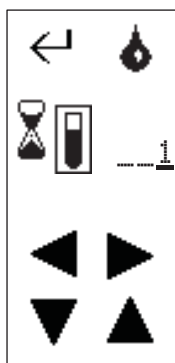

Figure 3-10 Drop Counts display
1. Touch the Drop Count icon to open the settings display (Figure 3-10).